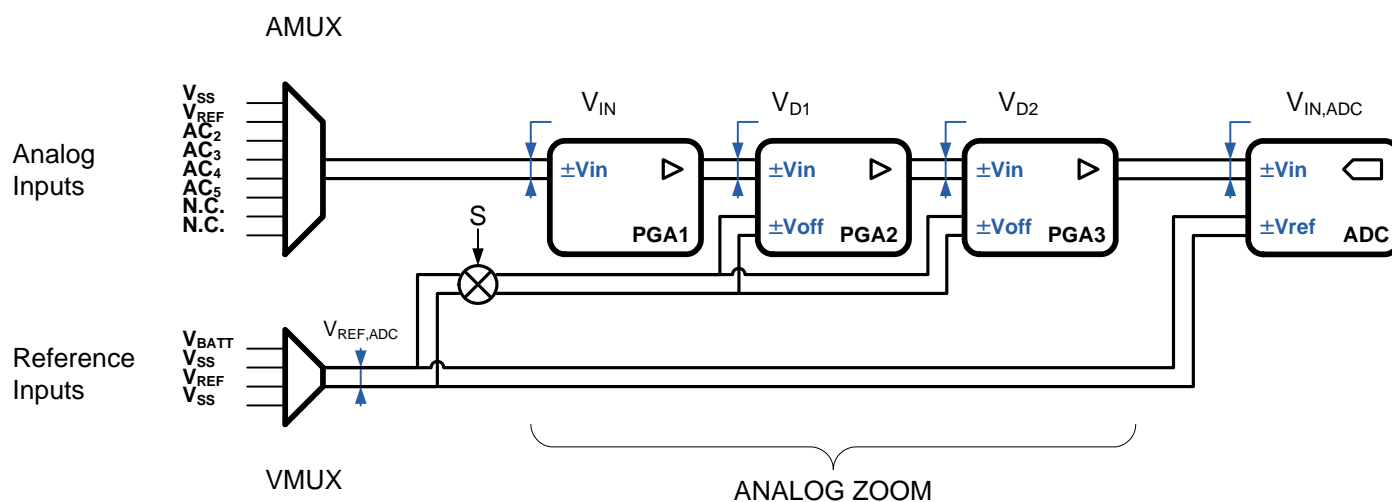

Figure 11. ZADC General Functional Block Diagram
Figure 11, page 17 shows the general block diagram of the acquisition chain (AC). A control block (not shown in **Figure 11**) manages all communications with the SPI peripheral. The clocking is derived from the internal 4 MHz Oscillator.
As seen in **Figure 11**, page 17, the zooming function is implemented with three programmable gain amplifiers (*PGA*). These are: